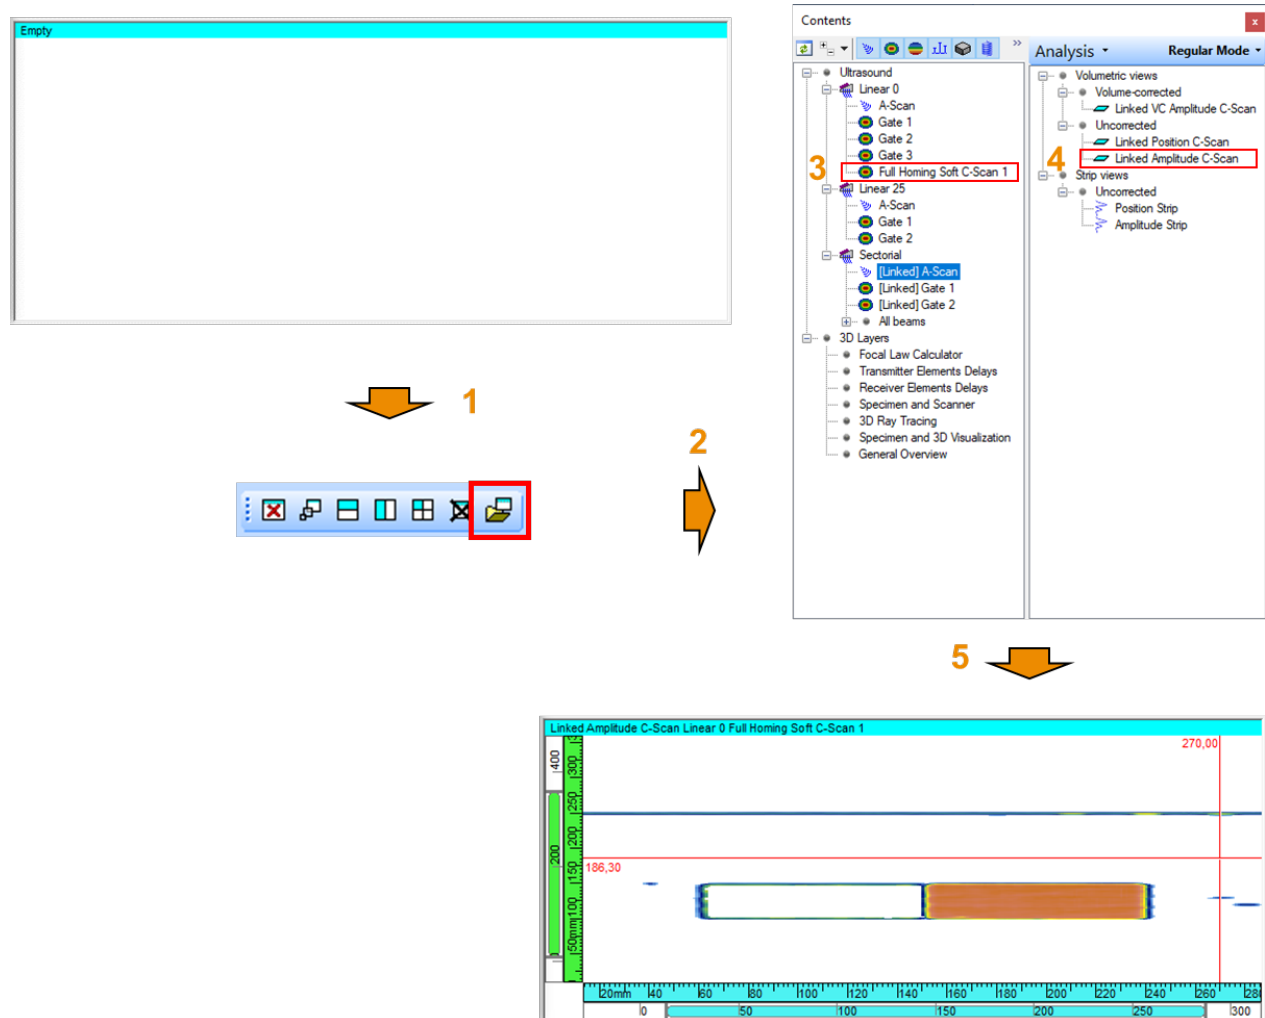

Figure 35: Displaying soft C-Scans created in the Homing/HomingEnd mode
- As depicted in Figure 35, to display the C-Scans (generated by gates or Soft C-Scans), the user should: